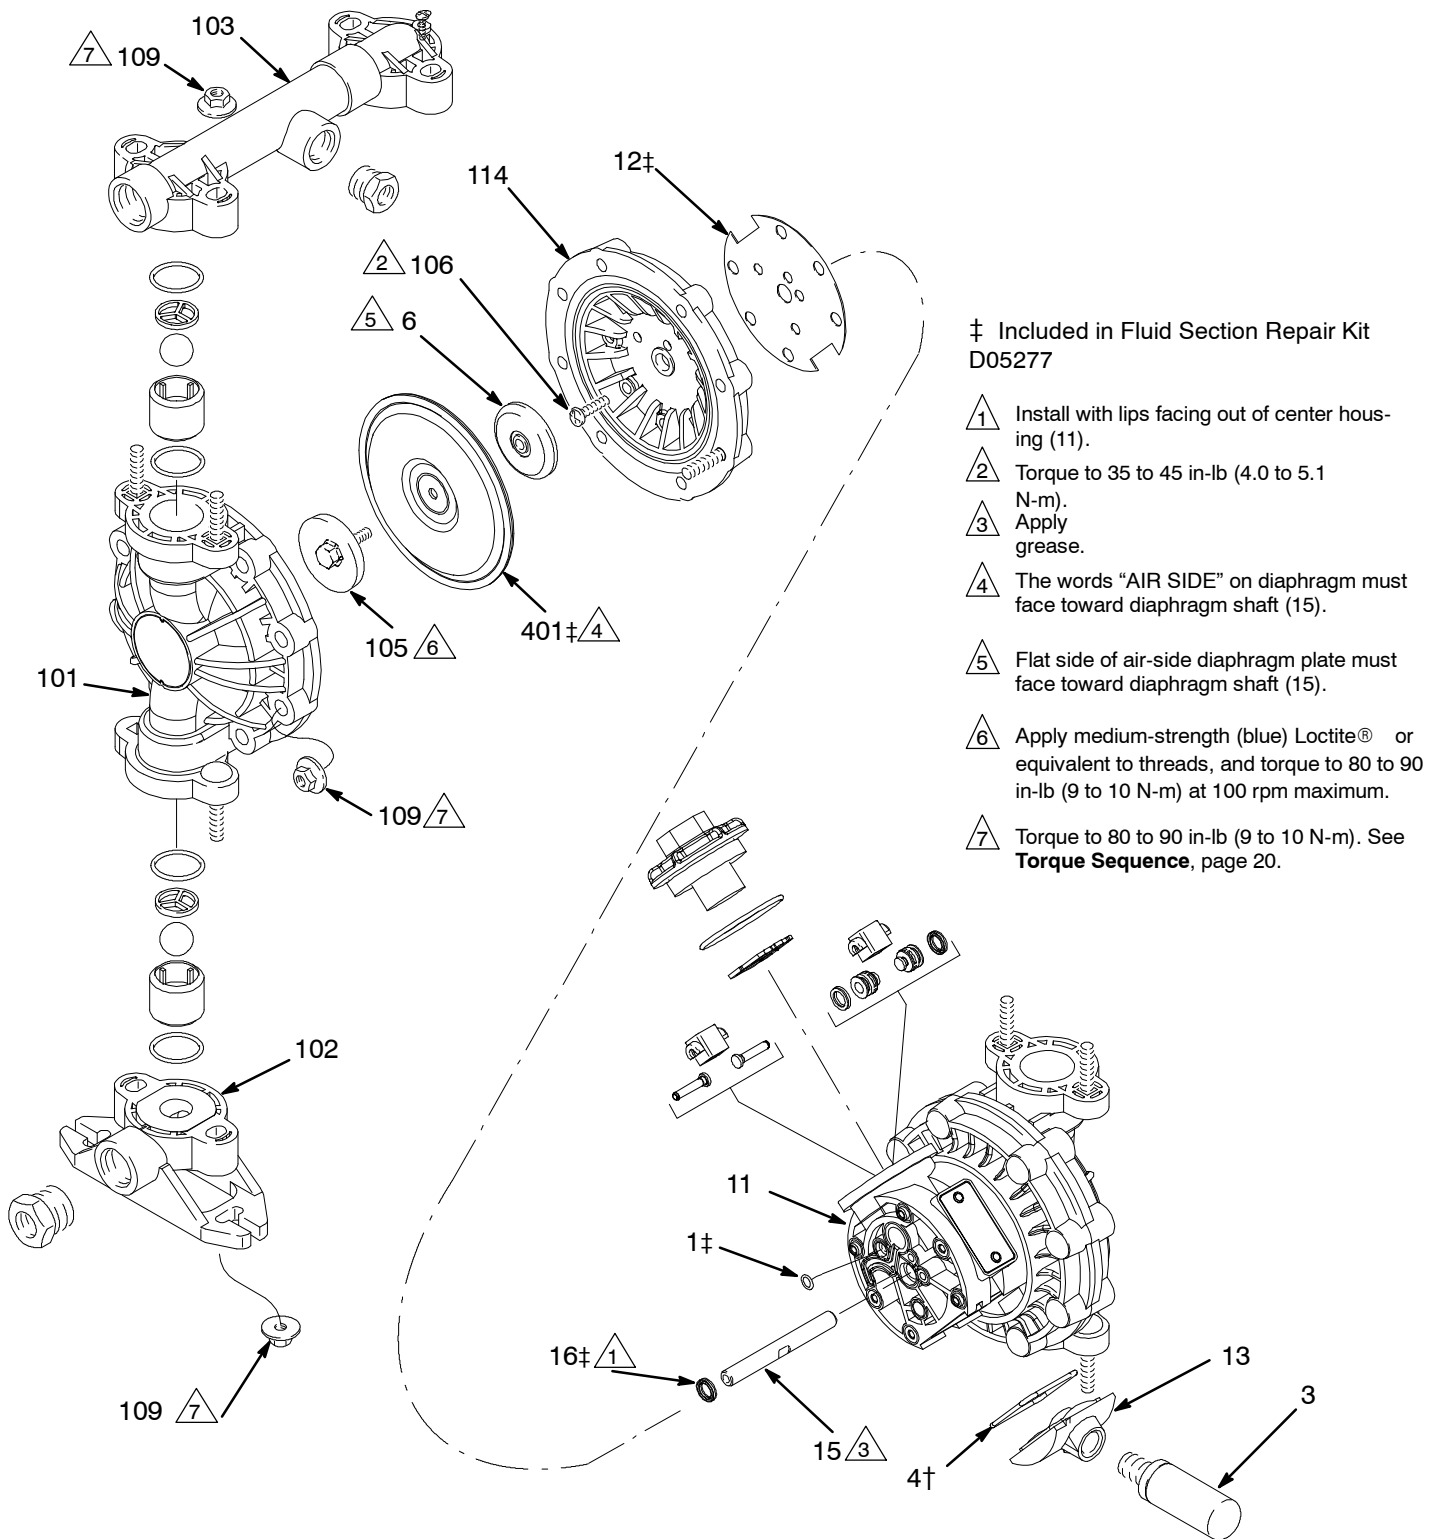

Fig. 7
NOTE: Fluid Section Repair Kit D05277 is available. Order repair kit separately. Parts included in the kit are marked with a double dagger (‡) in Fig. 7 and in the Parts Drawings and Lists. General purpose grease 111920 and Adhesive 113500 are supplied in the kit. Service the diaphragms as follows. See Fig. 7.
2. Line up the holes in the gasket (12) with the holes in the end of the center housing (11), and use six screws (106) to fasten an air cover (113 or 114) to the end of the center housing (11). Torque the screws to 35 to 45 in-lb (4.0 to 5.1 N-m).
3. Position the exhaust cover (13) and o-ring (4) on the center housing (11).
5. Apply medium-strength (blue) Loctite or equivalent to the threads of the fluid-side diaphragm plates (105). Install on one end of the diaphragm shaft (15) the following parts (see proper order in Fig. 7): air-side diaphragm plate (6) diaphragm (401), and fluid-side diaphragm plate (105).